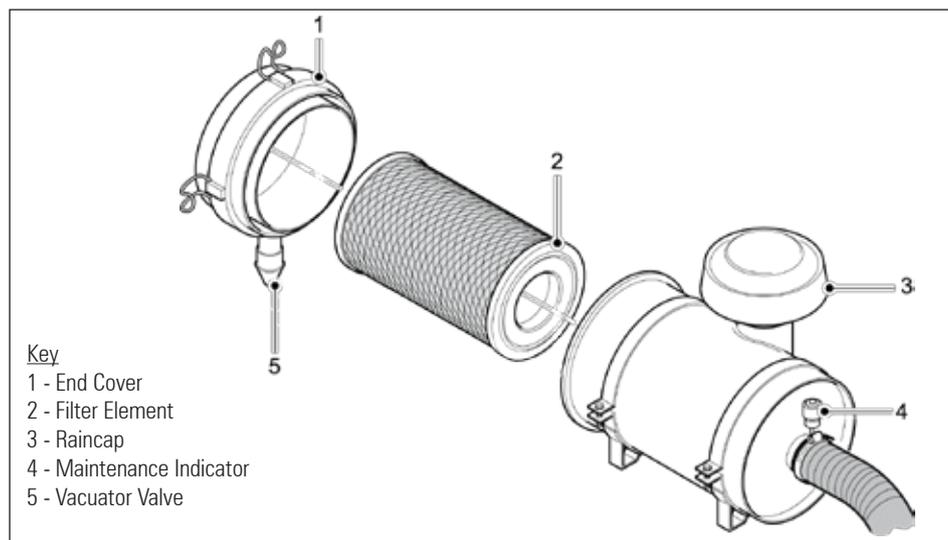

Figure 7b. Inlet Air Filter
- Unclip the clamp retaining the end cover (Fig. 7b/1) of the air filter and remove it noting the position of the vacuator valve (Fig. 7b/5).
- Remove the end cover by releasing the retaining clips and withdraw the filter (Fig. 7b/1).
- Clean the filter by blowing compressed air through the filter from the inside outwards or replace with a new filter element (Fig. 7b/2).